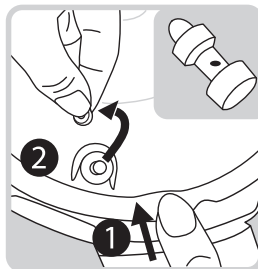

Figure 6
- To remove the Float Valve for cleaning, start by carefully removing the seal on it from the inside of the lid, and removing the valve. Allow to dry completely before putting back into multicooker and reinstalling the seal. (See Figure 6)